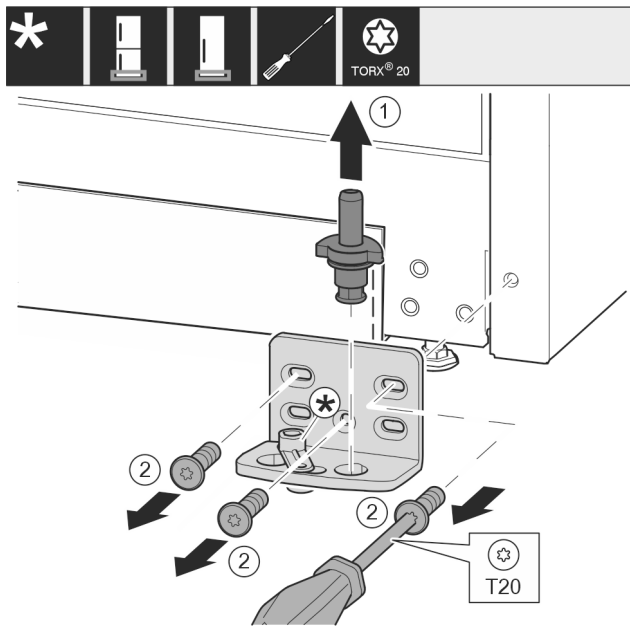

Fig. 12
- Pull the bearing bolt Fig. 12 (1) out upwards completely.
- Use screwdriver to unscrew the screws Fig. 12 (2) and remove the swap bearing block.